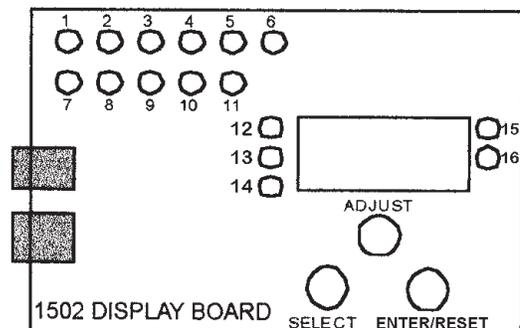

Figure 18. Dia-Scan II Display Board (Simplified).
1. Press the SELECT push-button on the display board until both the Set-Pt LED (LED 15, see figure 18) and Outlet Water Temperature LED (LED 13, see figure 18) are illuminated.
1. Press the SELECT push-button on the display board until the Set-Pt differential LED (LED 16, see figure 18) is illuminated.